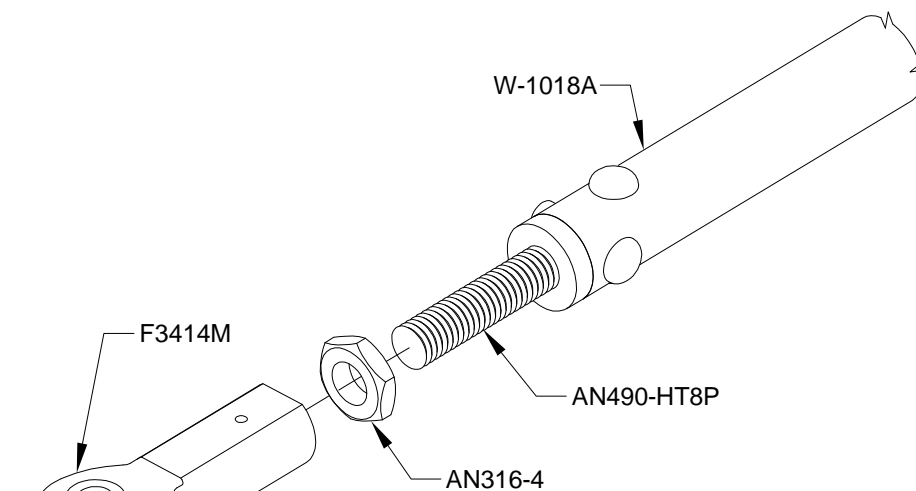

FIGURE 4:
Step 4: Install rod end bearings and jam nuts into the AN490-HT8P Threaded Rod Ends as shown in Figure 4. Theoretically the correct engagement of the rod end bearings yields a bearing center-to-bearing center length of 25 1/4 inches. The rod end bearing engagement may be adjusted during installation of the W-1018 Bellcrank to Aileron Pushrod.